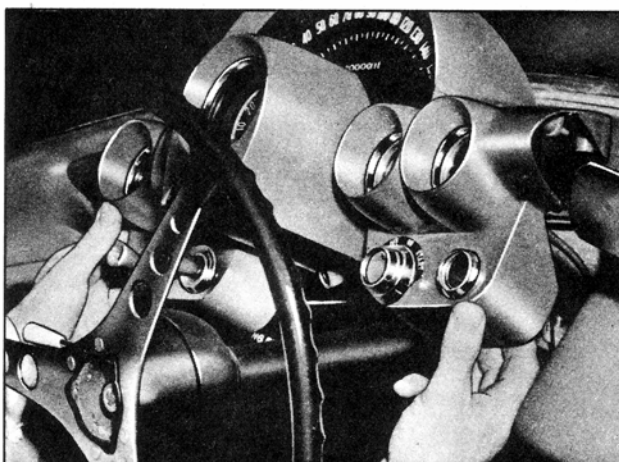

Fig. 11—Removing Instrument Panel from Dash Panel
6. Lift instrument panel assembly from dash panel as shown in Figure 11.